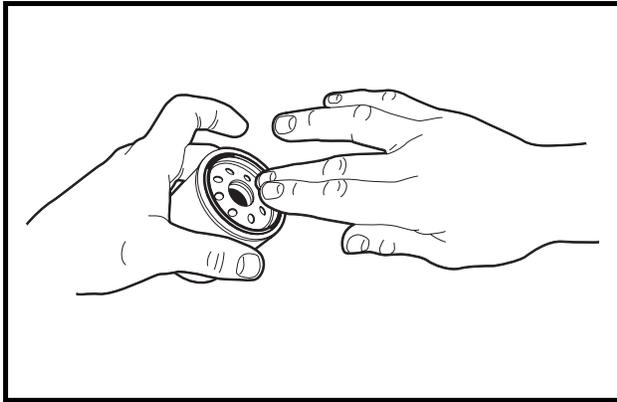

Figure 31 Coat Oil Filter Rubber Seal
11. Install a new oil filter (CCI P/N 1016467) onto the engine oil filter port. Apply a light coat of white lithium NLGI Number 2 grease (Dow Corning® BR2-Plus or equivalent) or new engine oil to the rubber seal around the outside surface of the filter before attaching it to the oil filter port (**Figure 31**). This will help seal the filter to the oil mounting bracket.